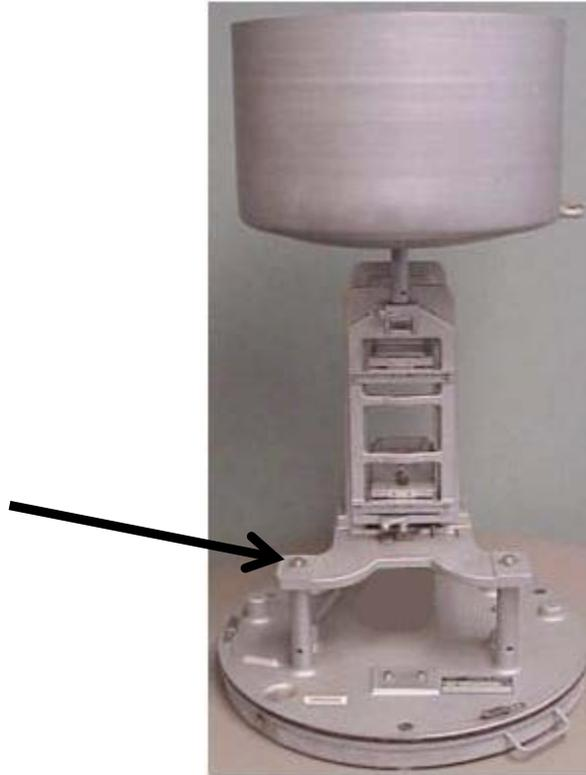

Figure A-3: Support Stage
7. Loosen the two 7/16-inch bolts holding the paper recorder assembly to the support stage (see Figure A-3).
NOTE: After removing the paper recorder assembly, the support stage will be accessible, and bare as seen in Figure A-3. Make sure the gauge support stage is leveled or make it so by placing shims under the base. The following section assumes the support stage is leveled.